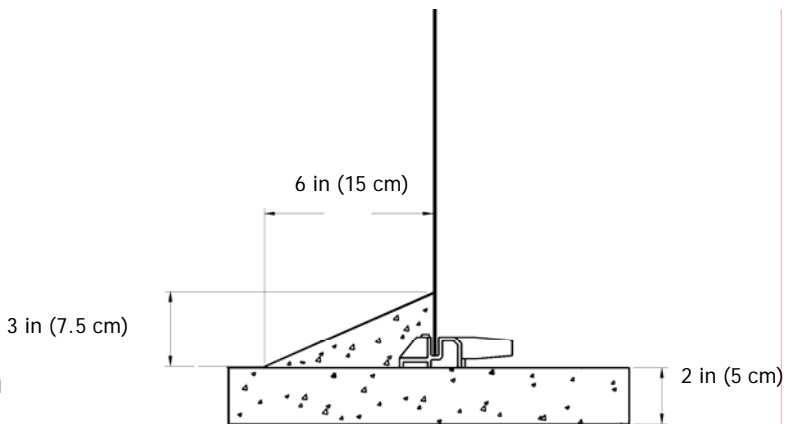

Figure 5.1
- Spread about 2" (5 cm) of the cove material on the bottom of the pool while making sure the cove is 3" (7.5cm) high (figure 5.1). Be sure to compact the cove material and remove any small stones.